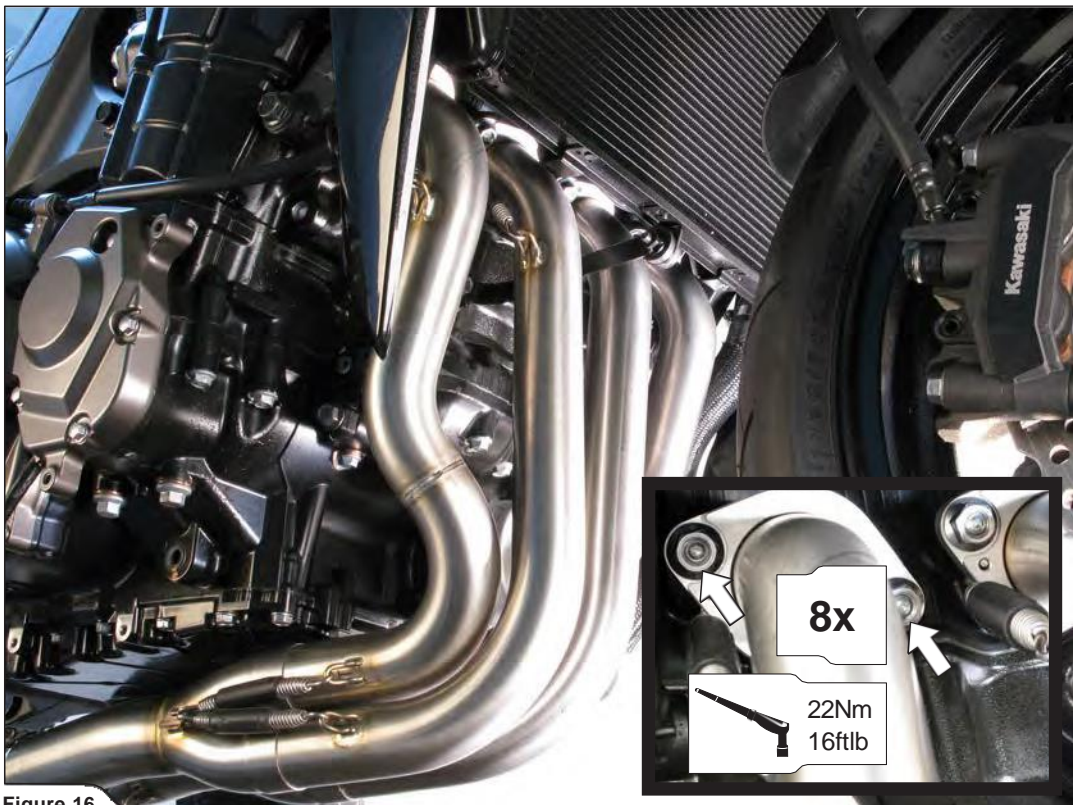

Figure 16
2. Insert the headers into the sleeves, attach the springs and tighten the flanges to specified torque (**Figure 16**).